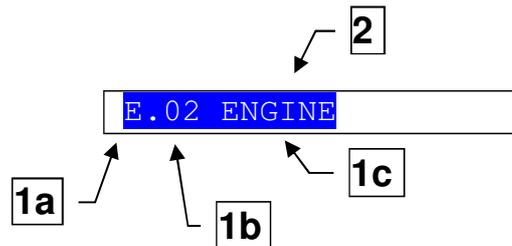

Fig. 4 - Top status bar
4.4.5 Top status bar (ref. to fig. 4)